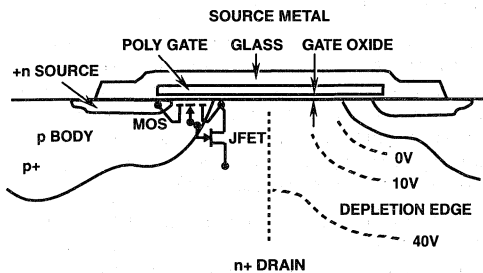
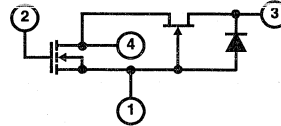

FIGURE 6. CROSS SECTION OF POWER MOSFET
FIGURE 7. SCHEMATIC REPRESENTATION OF THE CROSS SECTION OF FIGURE 6
If we are to understand the differences and similarities of the  $L^2FET$  relative to the conventional power MOSFET, the conventional power MOSFET must first be understood. Figure 6 shows a properly proportioned cross sectional view of the power MOSFET.
When the drain voltage is very low and the gate is forward biased, an accumulation layer exists for the n- region beneath the gate. This layer may be thought of as serving the function of the drain for the lateral MOS. In addition, it serves as a source for a vertical depletion mode JFET. The gate of the JFET is formed by the body diffusion, particularly in the neck region. The JFET drain is the n+ region usually thought of as being the MOSFET drain. This situation is shown in Figure 6, where the cross sectional view of the MOSFET is shown. The lateral MOS and the vertical JFET
are schematically implied by the left half of Figure 6. The right half indicates the edge of the depletion width for several drain voltages. Note how the JFET pinches off, such that increased drain voltage is supported predominately by the JFET. This structure is schematically represented as shown in Figure 7. Note that the third quadrant diode is caused by the p-n junction associated with the gate and drain characteristic (common to all JFETs). A parasitic n-p-n transistor is not shown, nor is it discussed in this Note. Voltage node (4) is within the device, and is not precisely a single node, as represented.
The equivalent circuit of Figure 7 contains four voltage nodes. Therefore, six capacitors will exist to couple these nodes. The switching waveforms are determined by these capacitors and the small signal equivalent circuit of the MOS and JFET. Of course, the MOS and JFET small signal equivalent circuits are nonlinear functions of voltage and current and invariant with frequency. Similarly, the capacitors are nonlinear with voltage and current.
When current does flow, node (4) of Figure 7 is a low impedance node due to the source follower characteristic of the JFET. Similarly, nodes (1) and (3) are generally low impedance nodes by virtue of the ground reference and the load resistance. Therefore, capacitive currents will usually be significant only to the input node, (2). Capacitors  $C_{12}$ ,  $C_{23}$ , and  $C_{24}$  are examined below over most of the switching regime when current is flowing.
When all of the die except the actual MOSFET cells are ignored, Figure 6 shows that the gate to source capacitance ( $C_{12}$ ) is that from the poly gate upward through the thick oxide to the source metal. In addition, there is a contribution from the poly gate to the n+ source through the thin gate oxide. Additionally a fringing capacitance exists at the edge of the polysil gate. These components of  $C_{12}$  are invariant with voltage and current. There is a fourth component from the poly gate to a region about half way along the MOS channel through the gate oxide. This component is actually distributed, and varies somewhat with current and voltage.
Since  $C_{23}$  is still zero, all gate current must flow from  $C_{24}$ . Assuming that the gate voltage is plateaued and that the JFET is still heavily forward biased, node 4 of Figure 7 must ramp at linear rate. Therefore, the JFET must also ramp at this same rate.